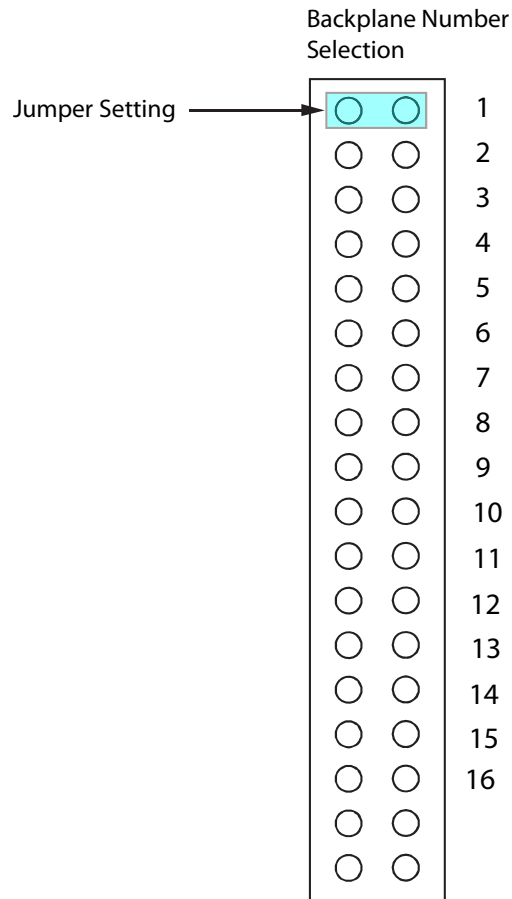

Figure 39. Backplane Number Section
- Using a jumper, set the backplane number across the Backplane Number Selection pins as shown in figure 39.